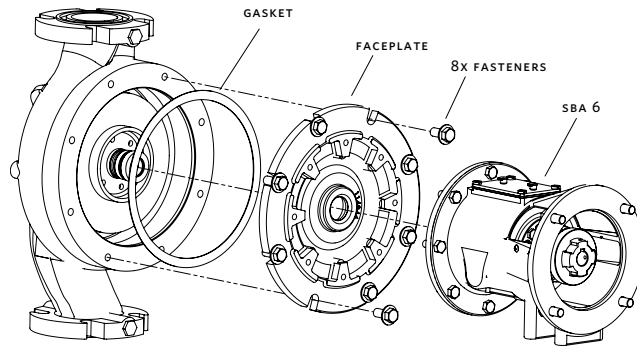

FIG 7B. SBA 6 series with Face plate details (exploded view)
- 13 Face plate along with fasteners has to be removed while replacing the sba with or without impeller kit (**FIG 7B**).